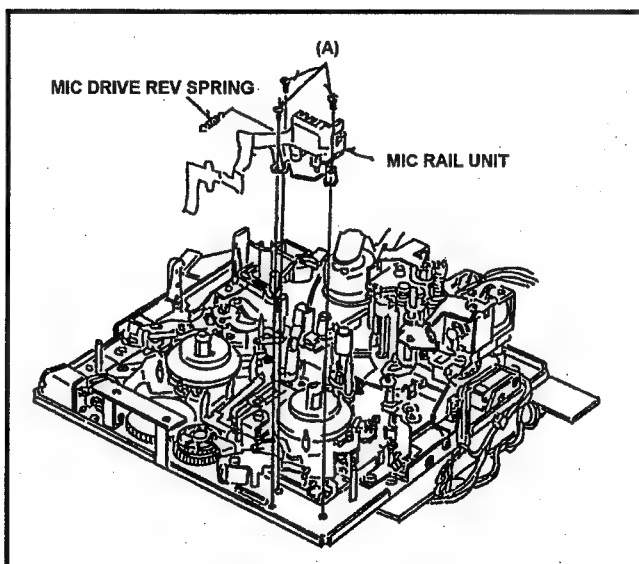

Fig. 6-11-1 Removal of MIC Rail Unit
5. Remove the MIC Drive Rev Spring at the MIC Rail Unit side as shown in Fig. 6-11-1.
6. Unscrew the 3 screws (A) and remove the MIC Rail Unit as shown in Fig. 6-11-1.